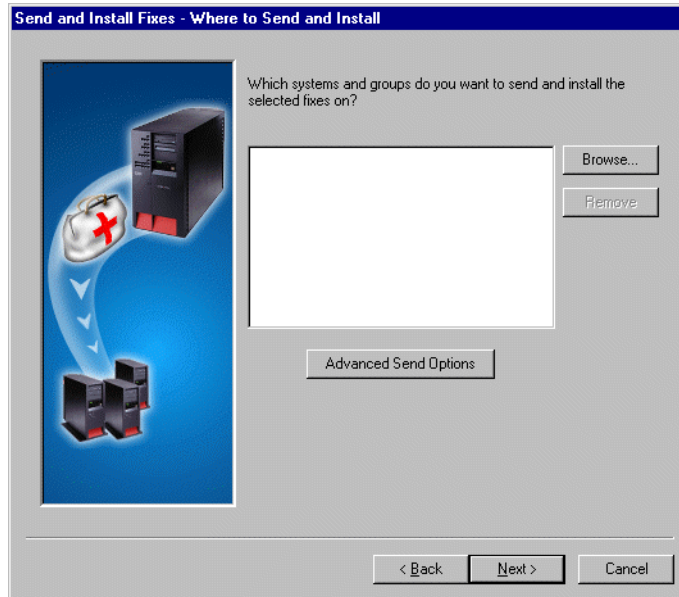

Figure 86. Send and Install Fixes: Where to Send and Install window
2. Verify that this list is correct and click **Next** to see the Send and Install Fixes - Where to Send and Install window, as shown in Figure 86 on page 110.